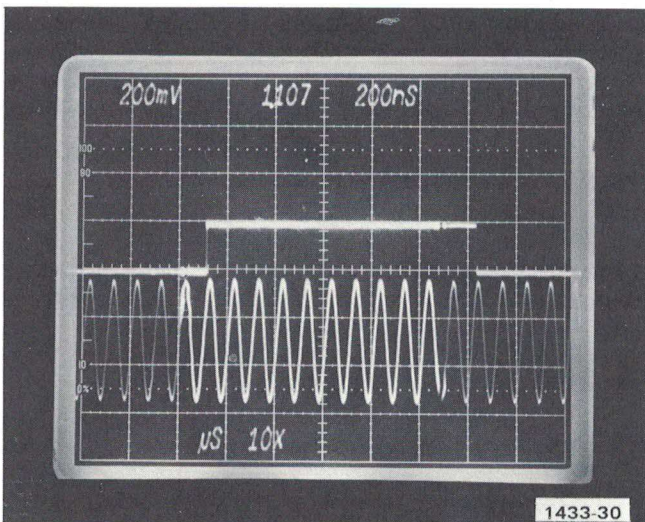

Fig. 5-11. Typical pseudo gate display when A Arm and B Arm inputs are gated.
l. Check—for a pseudo gate display occurring during the positive peaks of the intensified sine wave. See Fig. 5-11 for a typical display.